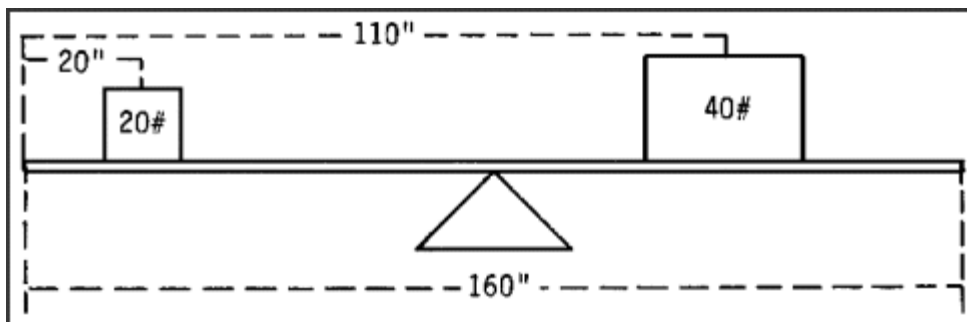

Figure 17-4. Achieving moment of balance
- I Moment is the product of the weight of an item multiplied by its arm. Moment may be expressed in pound-inches; for example, 2 pounds (weight) x 10 inches (arm) = 20 pound-inches (moment). For instance, in Figure 17-4 you see a board perfectly balanced with a 20-pound weight on one end and a 40-pound weight on the other. To understand how this is possible, you must learn the meaning of an inch-pound or moment. A moment is the product obtained when the distance (arm) is multiplied by the weight. For the board to balance, the weights placed on each side of the fulcrum must create an equal number of moments. If the 20-pound weight is paced 60 inches from the fulcrum on one end of the board, it creates 1,200 moments; consequently, the 40-pound weight is placed only 30 inches from the fulcrum on the other end to create the same number of moments and balance the board.